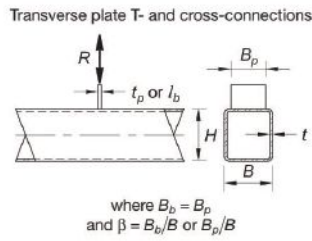

Fig. 7. Continuous beam over a square HSS column.
Chapter 6 – Moment Connections describes six different options for wide-flange beam-to-HSS moment connections, most of which classify as fully restrained (FR). The simplest and most inexpensive option for a one-story building is a continuous beam over the HSS column, popular for big box stores (Figure 7). Other FR options presented are: the external diaphragm (cut-out) plate connection; welded tee connection; through-plate connection; and internal diaphragm plate connection. The directly welded beam-to-HSS column connection, which can be reduced to two transverse plate connections by considering only the flanges, is also included but normally only qualifies as a partially restrained (PR) connection. Design examples are given for all connection types except the internal diaphragm plate connection.